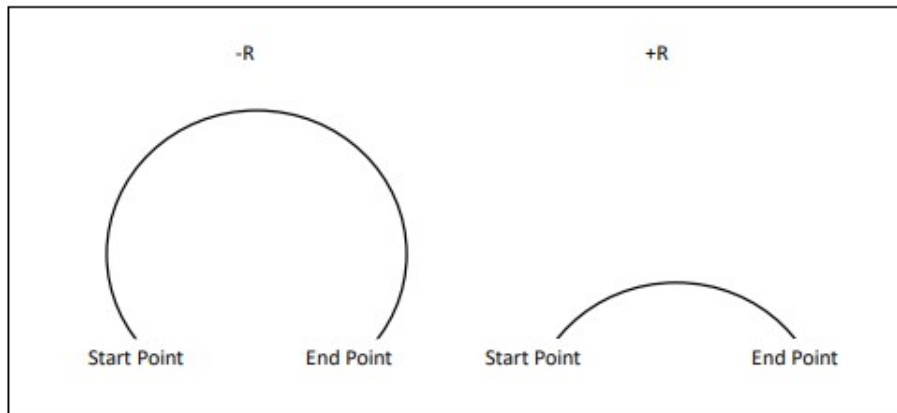

Figure 2-2: Difference between positive and negative values of R
- To specify the radius, use R and input the actual radius of the desired arc, see Format 2. When an arc is created knowing only start and end points and a radius there are two possible solutions, an arc with a sweep less than 180° and one with sweep greater than 180°. The sign of the radius value, positive or negative, determines which arc will be cut, see figure 2-2. A positive value for R cuts an arc with sweep less than 180°. A negative value for R cuts an arc with sweep greater than 180°.